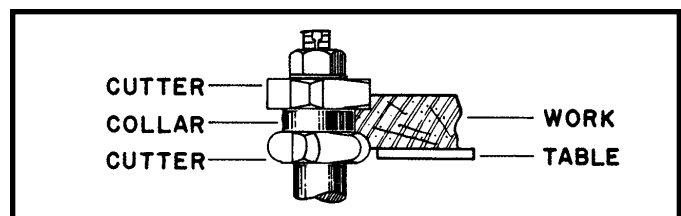

Fig. 45
4. The collar between cutters method, as shown in Fig. 45, has both the advantages of the first two methods and is frequently used where both edges of the work are to be shaped.